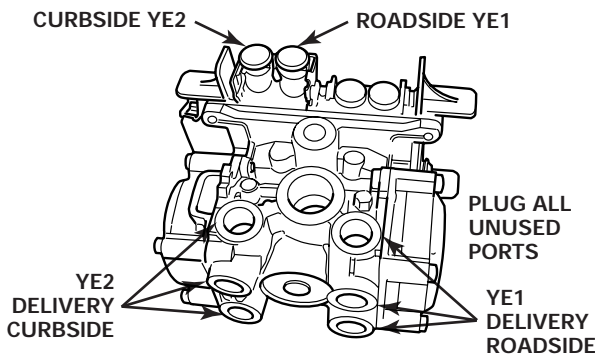

Figure 2-28: Valve Mounted with Sensors Facing Front of Trailer
- If the ECU/dual modulator valve assembly is mounted with the sensors facing the **front** of the trailer, the air lines for the three delivery ports located under the YE2 sensor connector must be routed to **curbside**; the air lines for the three delivery ports on the opposite side of the valve must be routed to roadside. See Figure 2-28.